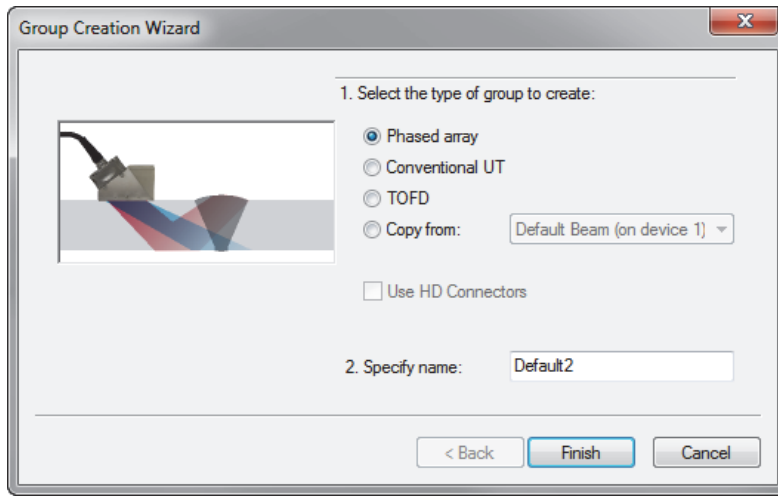

Figure 4-4 Group Creation Wizard dialog box
2. In the **Group Creation Wizard** dialog box that appears (Figure 4-4 on page 101), proceed as follows: